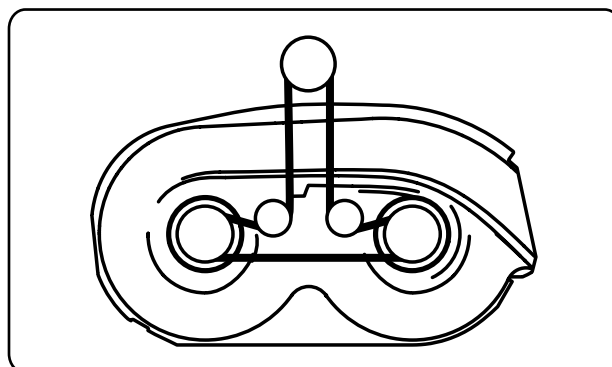

Figure 8.17
- For a 42" "G" deck and a 46" "T" deck, See Figure 8.17.